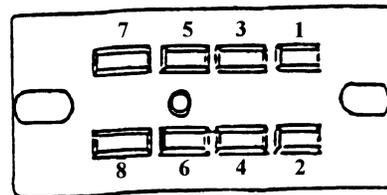

Figure 3
2. Remove the terminal from location 3 of the changer socket (See figure 3 above) using the removal instructions on page 3.
4. Remove the terminal from location 7 of the changer socket (See figure 3 above) using the removal instructions on page 3.
7. Insert wire #3 of the conversion harness in changer socket location 3. (See figure 3, page B1.)
8. Insert wire #4 of the conversion harness in changer socket location 4. (See figure 3, page B1.)
9. Insert wire #7 of the conversion harness in changer socket location 7. (See figure 3, page B1.)
10. Insert wire #8 of the conversion harness in changer socket location 8. (See figure 3, page B1.)